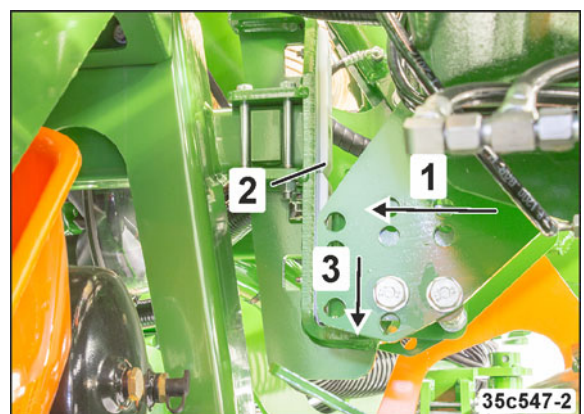

Fig. 234
- 7.1 Keep actuating the *green* tractor control unit until both implement sections (Fig. 234/1) rest against the runners (Fig. 234/2) of the transport locking mechanism.
- o the implement sections have been lowered and stopped by the locking hook (Fig. 234/3);
The locking hooks (Fig. 234/3) act as the mechanical arresting device for the implement sections during transportation.
Check that the locking hooks are fitted correctly (Fig. 234/3).